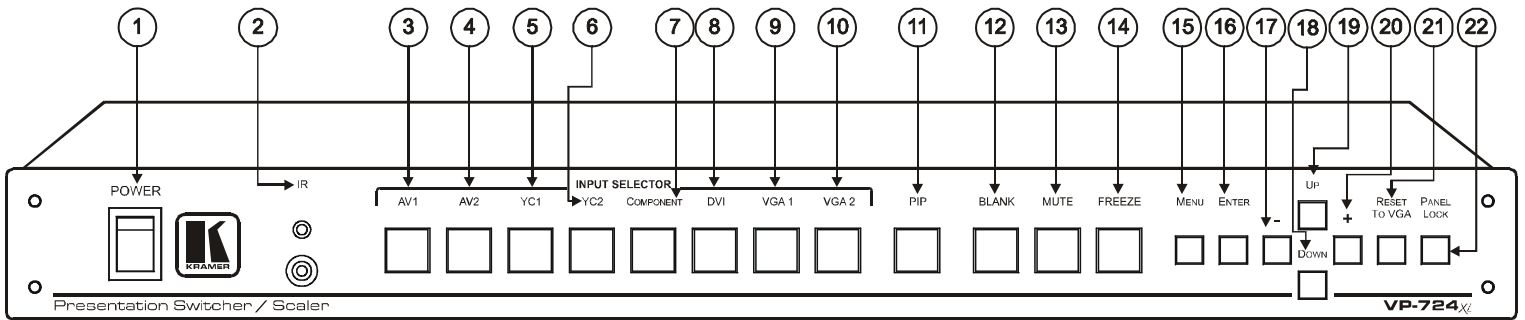
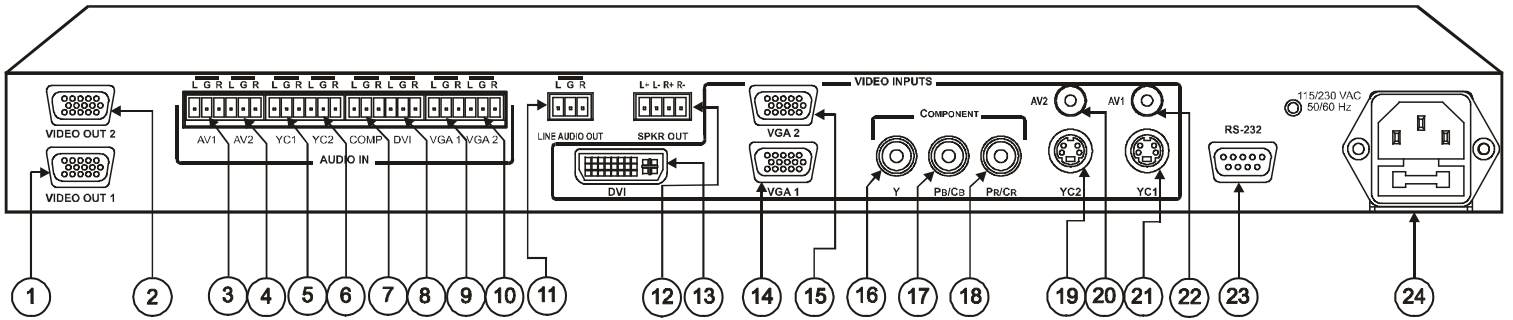

Figure 5: VP-724xl Presentation Switcher / Scaler Front Panel
Figure 6: VP-724xl Presentation Switcher / Scaler Rear Panel
- Figure 5 and Figure 6 illustrate the **VP-724xl** *Presentation Switcher / Scaler*